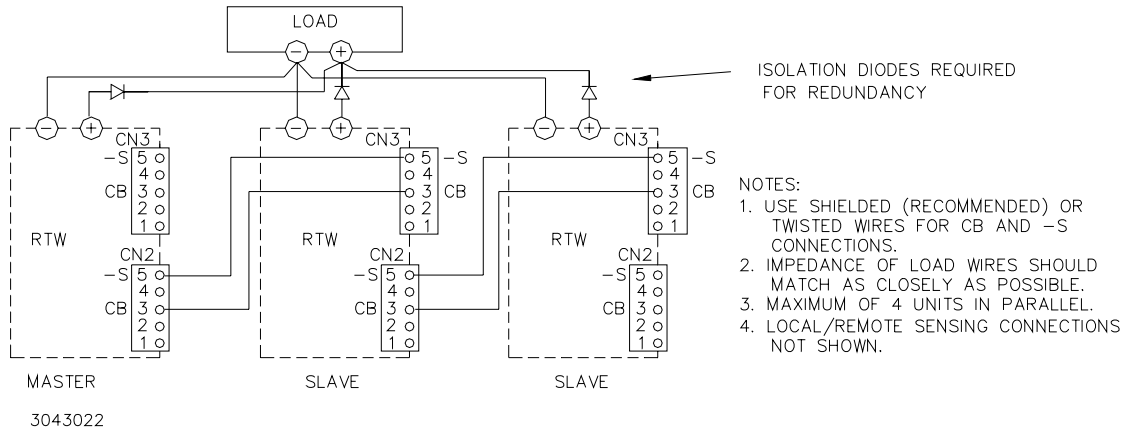

FIGURE 8. PARALLEL CONNECTION WITH CURRENT BALANCING
For a single remote ON-OFF signal to turn off all parallel-connected units, connect together all +RC terminals and connect together all -RC terminals. Figure 8 illustrates connection of up to four (maximum) power supplies in parallel. Output current for a parallel connection operating into a single load is equalized by connecting the CB terminals as shown. Output current for a parallel connection operating into a single load is equalized by connecting the CB terminals as shown. Refer to PAR. 6.3.1 for conditions required for proper current equalization (balancing). Optional Cable Kit 219-0497 (PAR. 6.6) may facilitate connections.
**N+1 Redundancy.** An N+1 system requires one additional power supply than necessary to supply the load. If one of the parallel-connected units fail, the others will continue to provide power to the load without down time. For redundancy, add isolation diodes as shown in Figure 8.